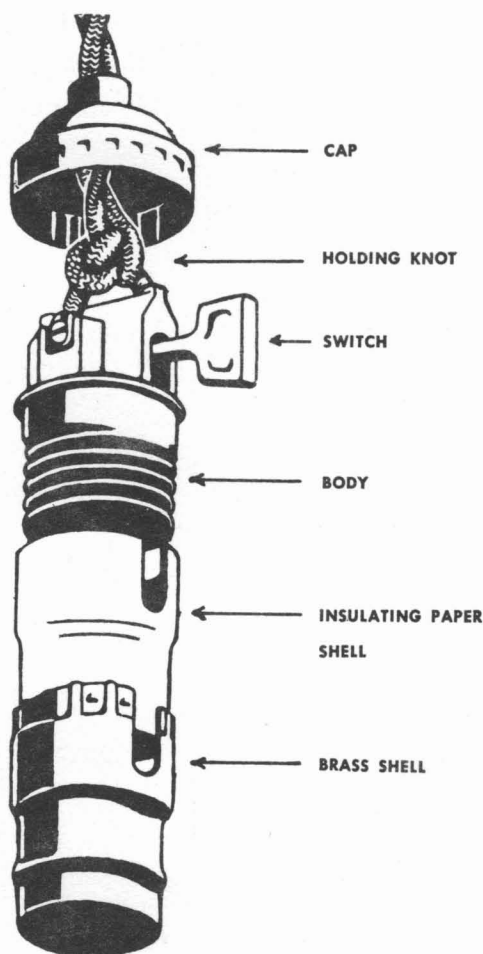

Figure 3 (Socket and Switch Assembly)
10. Pass the new cord up through the lamp base and socket cap, tie a simple half-hitch knot in the cord to prevent strain on the terminals, and attach wires to the terminals on the socket (Figure 3). If there is likely to be any strain on cord, use an Underwriters' knot. Twist strands and attach wire in direction in which screw tightens.